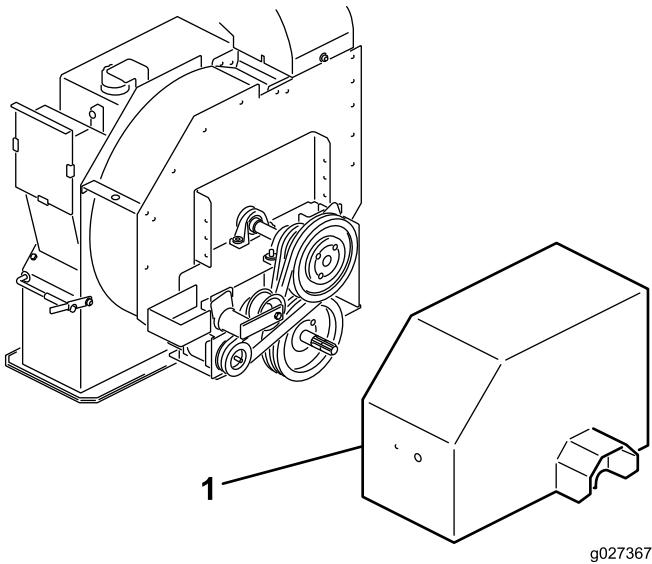

Figure 13
1. Remove the drive shield from over the pulley assemblies (Figure 13).
1. Loosen the bolts and nuts securing the drive shield to the impeller housing (Figure 13) and remove the shield.
2. On back side of the frame, loosen the bolt securing the belt tensioner to the frame (Figure 13).